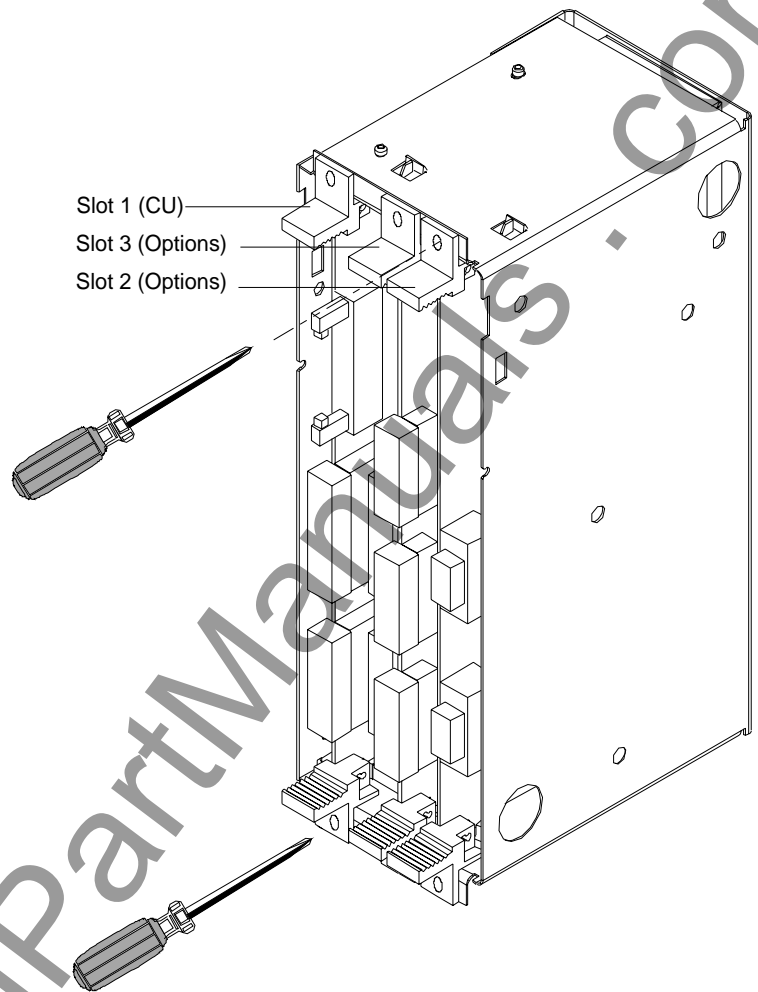

Fig. 5.6 Electronics box equipped with CU (slot 1) and options (slot 2 (right) and 3 (middle))
- Remove both mounting bolts from the electronics box (Fig. 5.6)